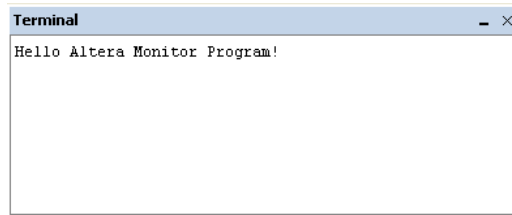

Figure 53. Output from the terminal tutorial program.
3. Run the program. The program will clear the Terminal window and write the string `Hello Altera Monitor Program`, as shown Figure 53.